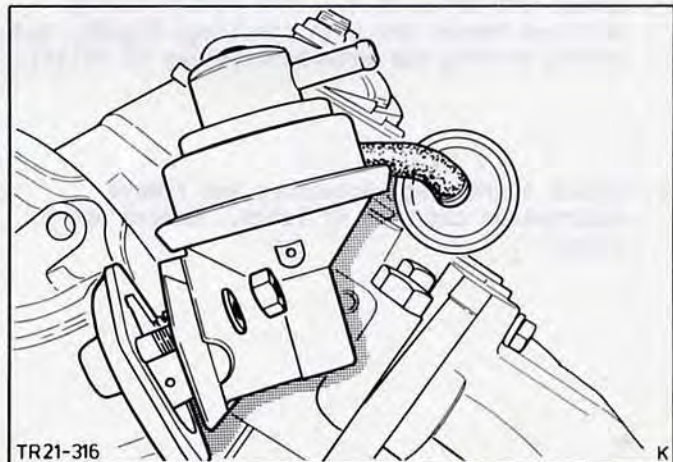

Fig.32. Remove fuel pump.
13. Detach fuel pump (2 nuts) with fuel line from timing cover, Fig.32.